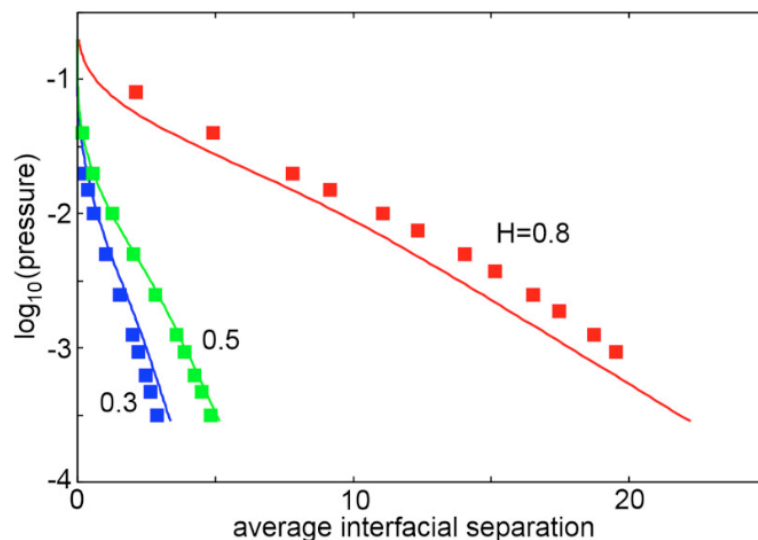

Fig. 1 Comparison between experimental and theoretical data on the relationship between applied squeezing pressure and average interfacial separation.
Give a brief description of the equipment and materials you used. If detailed descriptions are required, they should be placed in the *Appendix*. Illustrations by *simple diagrams* may save you a long description. Provide titles and label your diagrams clearly and refer to them in your text by using a clear numbering system (eg. Fig. 1 A Pressure Transducer).
- Fig. 1 Test rig with three degrees of freedom
- Figure 1 illustrates the forces on a triangular building for a given wind direction.